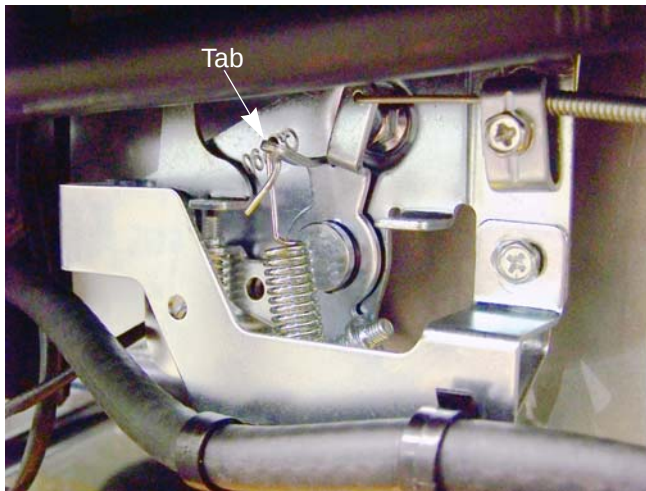

Figure 4.15
4. Bend the tab, that the governor spring is attached to, as needed to adjust the engine speed to 3,300 RPM $\pm$ 100. See Figure 4.15.